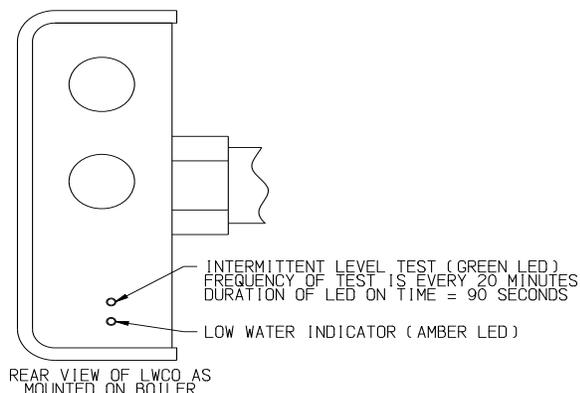

Figure 12-1: CG-400 Low Water Cut-Off
3. LWCO Probe Check - Turn on power to the boiler. Both the green power light and the yellow low water light should come on (Figure 12-1).